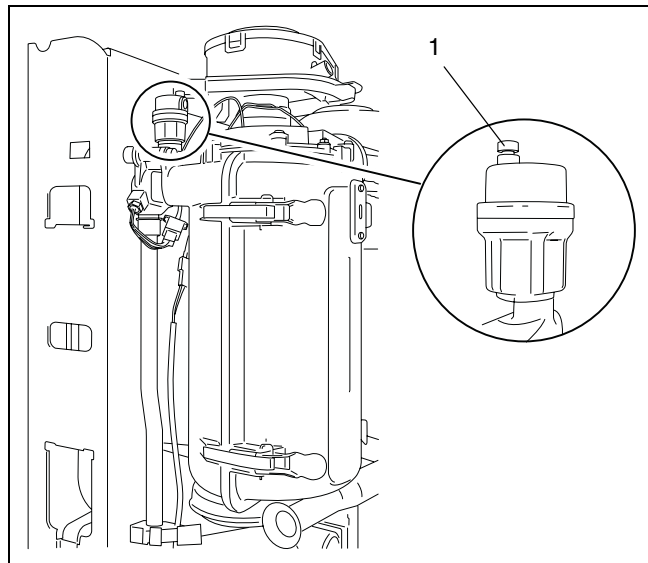

fig. 29 Automatic air vent
- Loosen the automated air vent one turn (fig. 29).